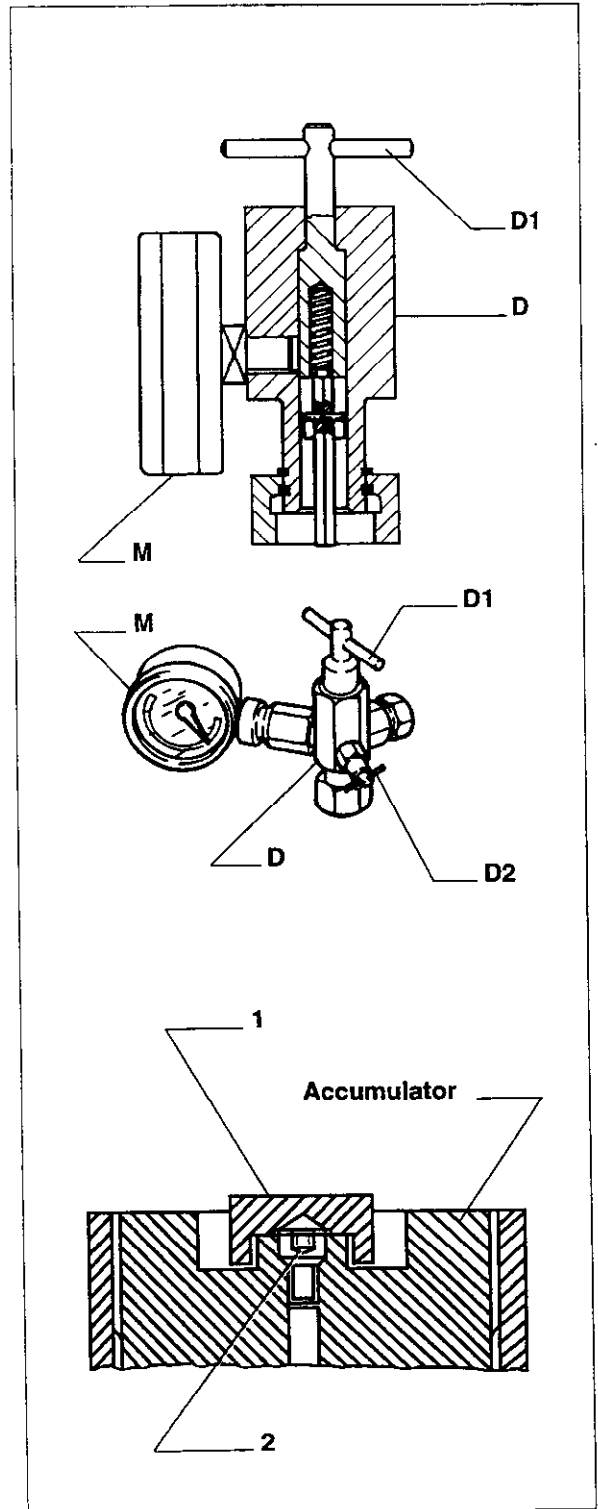

Fig. 6-44
- remove protection cover (1, fig. 6-44);
- loosen 1/2 turn screw (2) with an Allen wrench;
- install tool (D) 75298472 on the accumulator connection;
- rotate handle (D1) so as to loosen screw (2);
- when the pointer of pressure gauge (M) starts moving, unscrew handle (D1) a turn further.